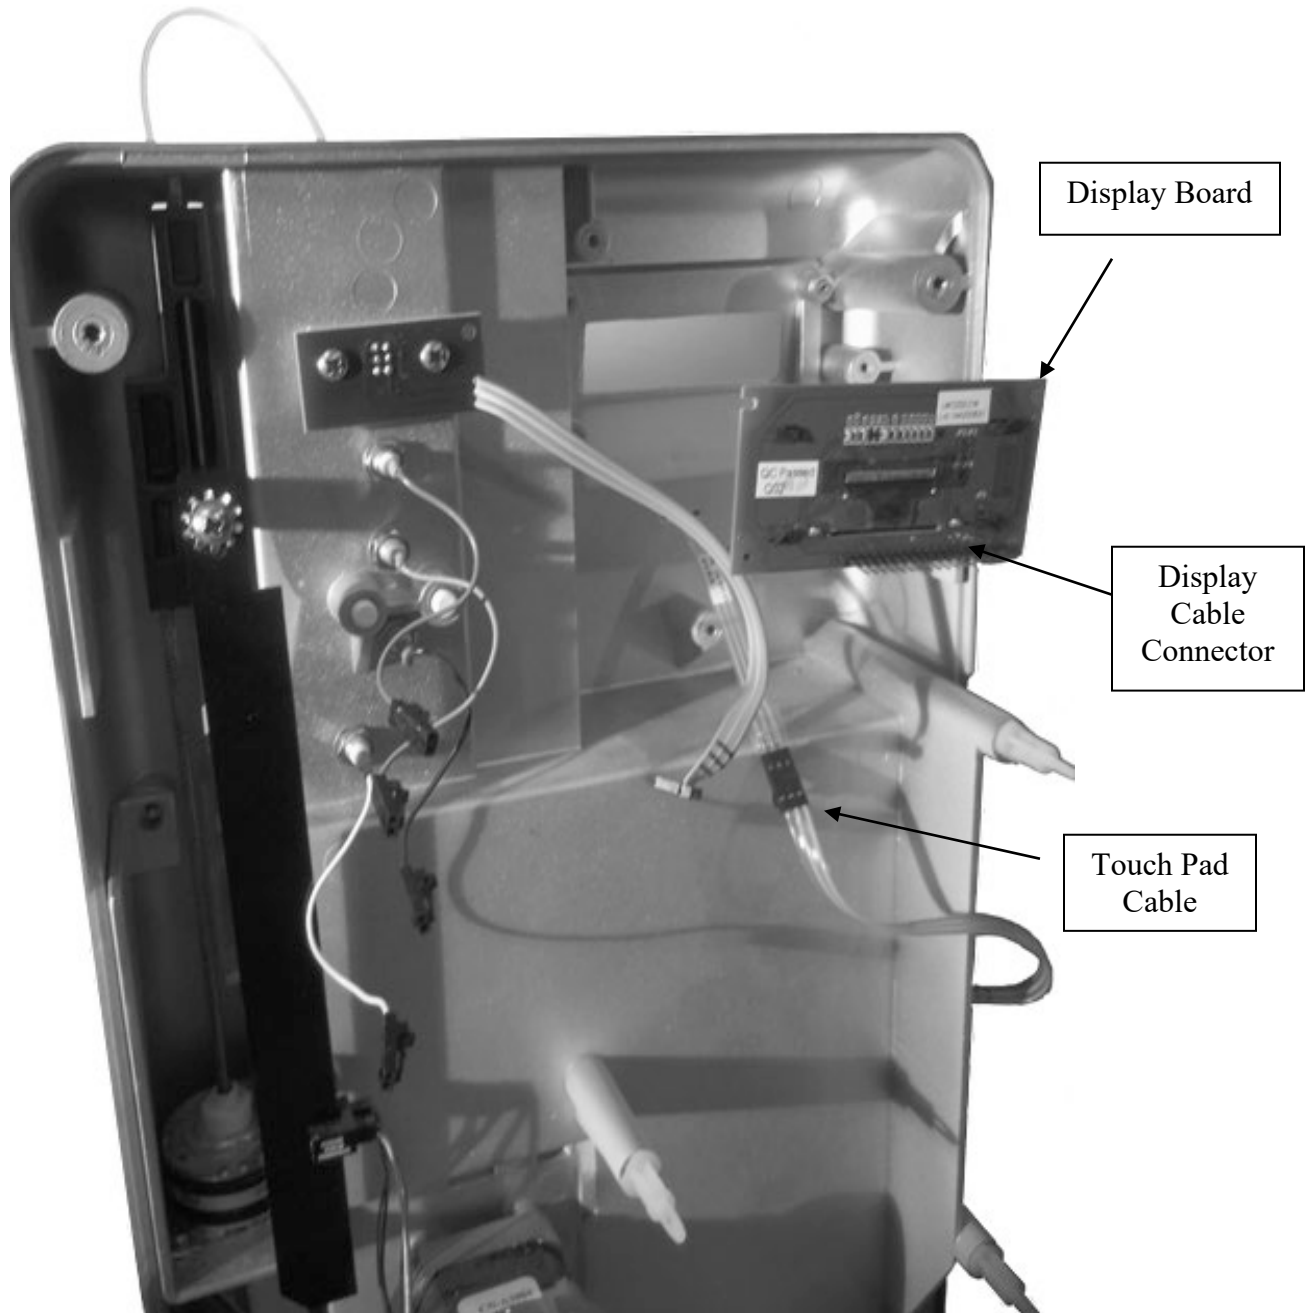

Figure P10 - Display Removal/Installation
2. Carefully remove the display cable from the Display Board. See Figure P10.
4. Remove the four screws from the display assembly using a Phillips head screw driver. See Figure P10.
3. Hold the display in place and attach the four screws using a Phillips head Screw driver. See Figure P10.